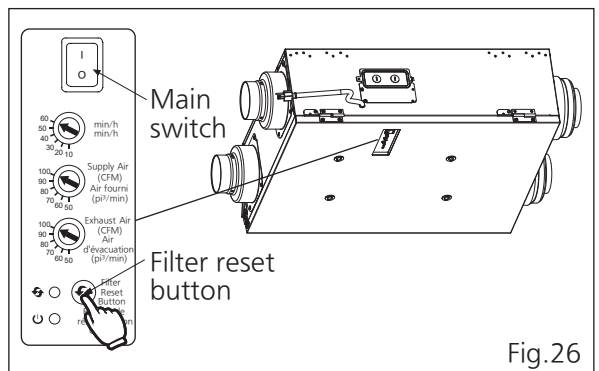

Fig.26
6. Connect power, press filter reset button with sound of "beep", then filter indicator and buzzer sound will be off. (Fig.26)